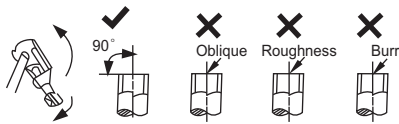

Fig. 22 – Pipe Cutting
- a. Cut the pipe, with a pipe cutter, at 90 degrees (see Fig. 22).